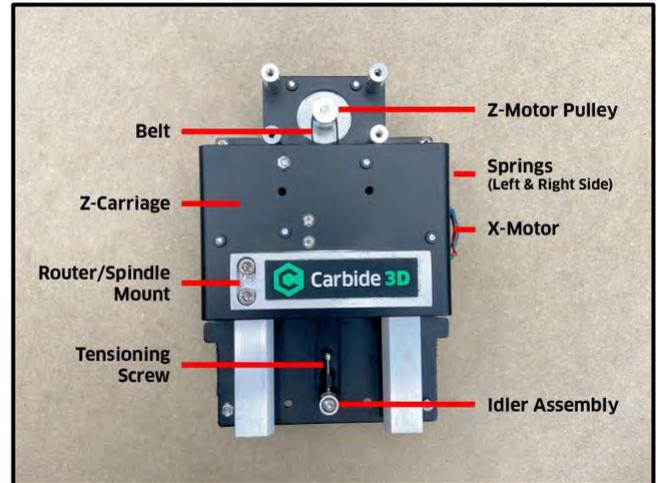

Figure 7
1. Separate the Z-carriage from the X-carriage. See *Fig. 7*.